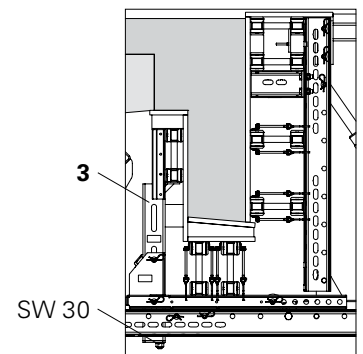

Fig. A2.05b
- By turning the Bolt (SW 30), the Vertical Post can be adjusted by ± 5.0 cm. (Fig. A2.05b)